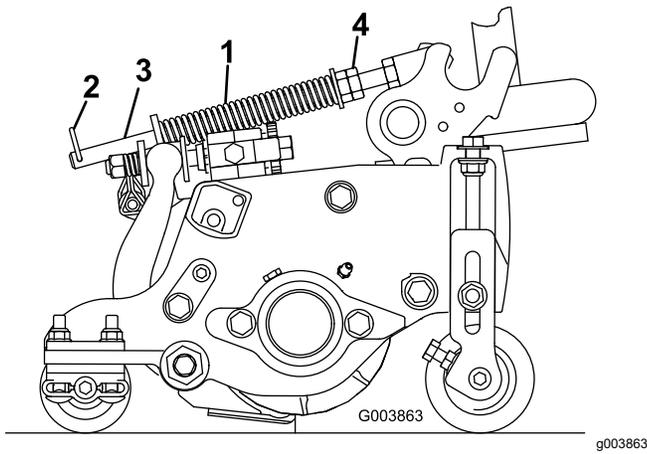

Figure 51
The turf-compensation spring (Figure 51) transfers the weight from the front roller to the rear roller. This helps to reduce a wave pattern in the turf, also known as marcelling or bobbing.
1. Make sure that the hairpin is installed in the rear hole in the spring rod (Figure 51).
2. Tighten the hex nuts on the front end of the spring rod until the compressed length of the spring is 15.9 cm (6.25 inches); refer to Figure 51.